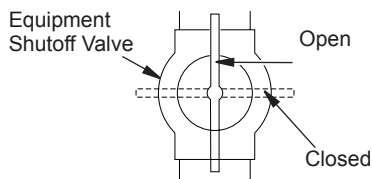

Figure 24 - Equipment Shutoff Valve
1. Close equipment shutoff valve (see Figure 24).
1. Open equipment shutoff valve (see Figure 24).